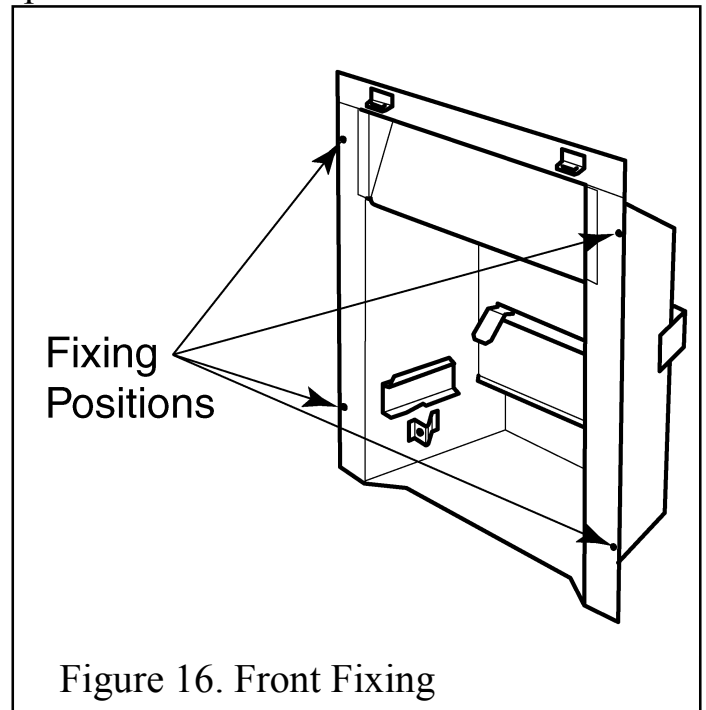

Figure 16. Front Fixing
3. Mark the fireplace front surround through the four fixing holes in the side flanges of the hotbox. See figure 16.